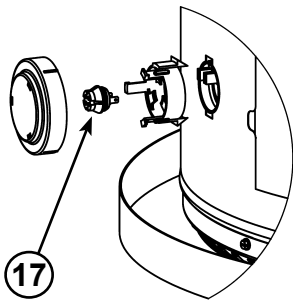

Figure 61
17. Flammable Vapor Sensor (under cover) (see Figure 61)